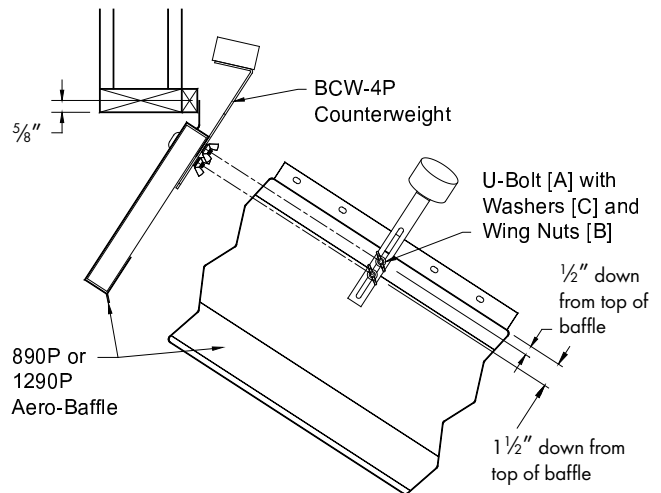

Figure 7B
Insert U-Bolt [A], from exhaust side of baffle, through holes. Position counterweight slot over U-Bolt legs. Make sure weight is positioned as shown. See Figure 7B.
Install one Washer [C] on top leg and two Washers [C] on bottom leg of U-Bolt, fasten in place with (2) Wing Nuts [B]. See Figure 7B.